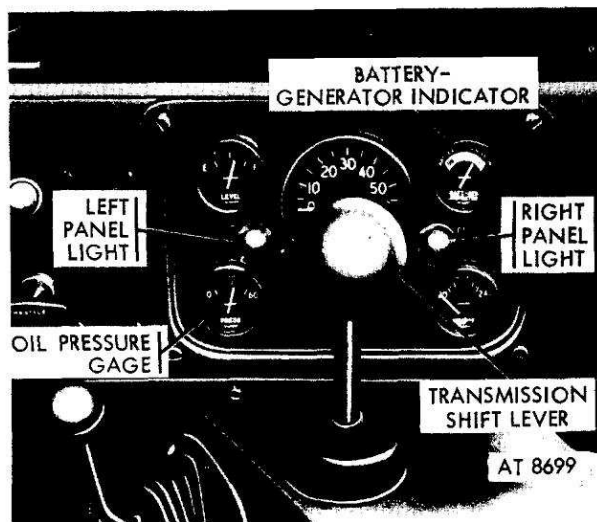

Figure 2-10. Oil pressure gage and battery generator indicator.
h. Check oil pressure (fig 2-10). Gage should read above 15. Battery generator indicator (fig. 2-10), should register in green area.
c. Place transmission shift lever (figs 2-10, 2-1-(H)), in first gear. Refer to shift pattern on dash panel plate (figs 2-1-(U), 1-10 through 1-13).
d. Place transfer lever (figs 2-10, 2-1-(K)) for front wheel drive in desired position. Refer to shift pattern on dash panel plate (figs 1-10 through 1-13).
i. When it is necessary to engage front wheel drive with transfer shift lever (figs 2-10, 2-1-(K)) move transfer lever forward to "IN" position.